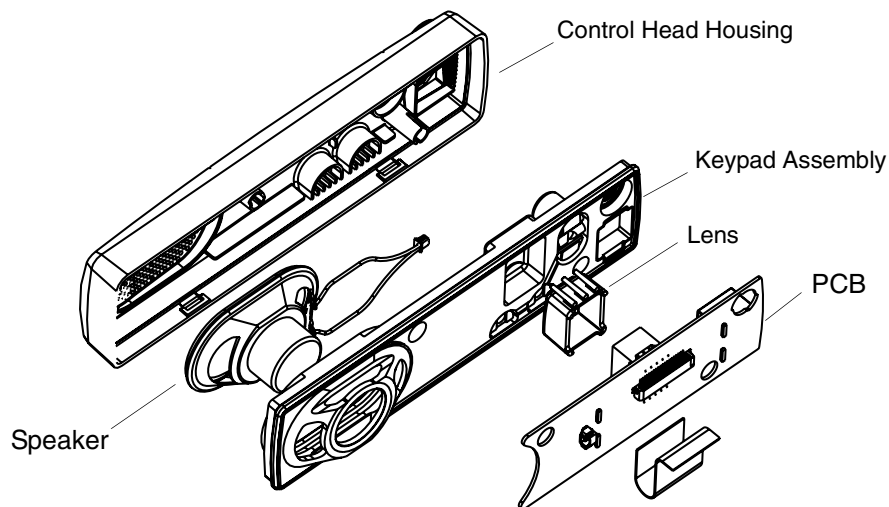

Figure 2-11 Control Head Housing Removal (CM140/CM340)
1. Disconnect the flat cable from the Control Head PCB connector. See Figure 2-11